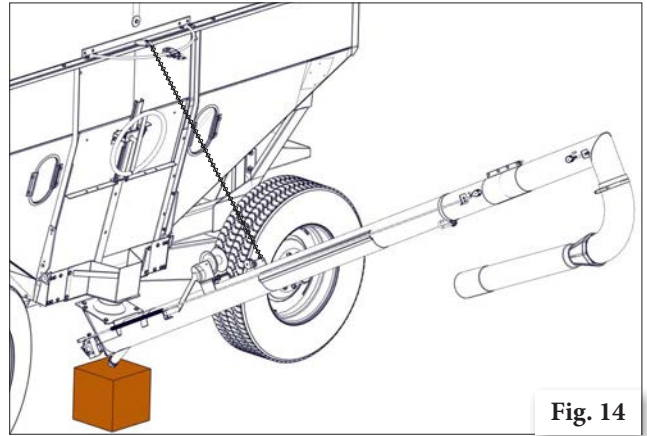
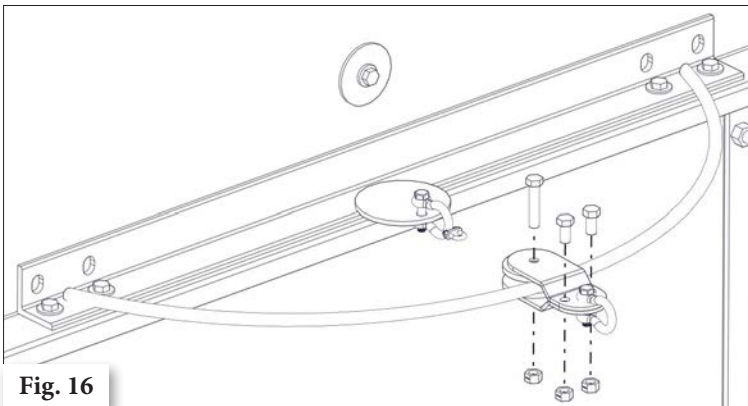

Fig. 14
Fig. 16
- Secure the 1/2" Black Pulley Assembly to the Curved Rod Weldment as shown in Fig. 16. Use a 3/8" x 1" hex bolt, (2) 3/8" x 3/4" hex bolts and (3) 3/8" centerlock hex nuts. Secure a 5/16" Shackle to the Pulley Assembly as shown in Fig. 14.